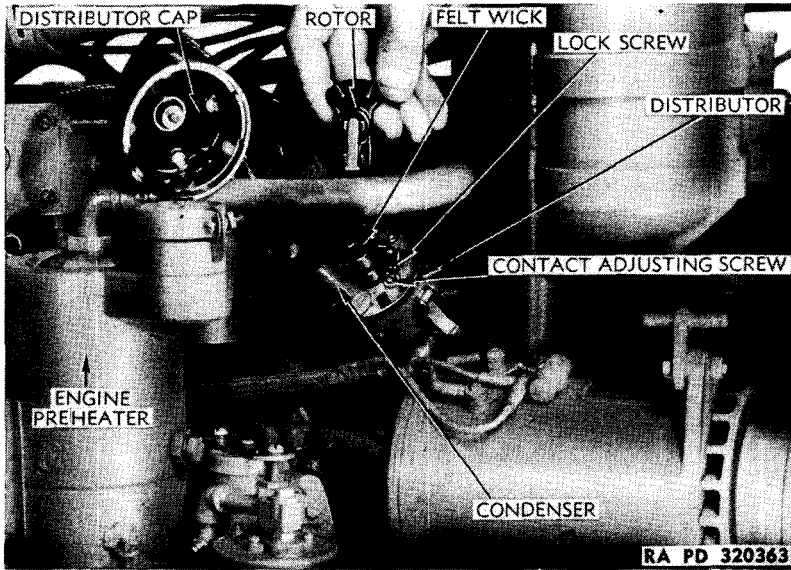

Figure 62—Distributor Cap and Rotor Removed
- (1) Remove engine hood side plate on right-hand side of vehicle.
- (2) Unclip distributor cap and lay up out of the way.
- (3) Remove distributor rotor. Turn engine with crank until distributor points are open wide.
- (4) Loosen lock screw (fig. 62), and turn adjusting screw to move stationary contact to or from movable contact. Test opening with 0.020-inch feeler gage. Tighten lock screw. Recheck opening again with gage to be sure tightening of lock screw did not change adjustment.
- (5) Replace rotor and distributor cap.
- (6) Install engine hood side plate.